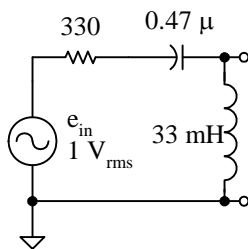

Figure 6-18
1. Build the circuit in Figure 6-18. Keep the leads from the signal generator and the leads to each component as short as practical.